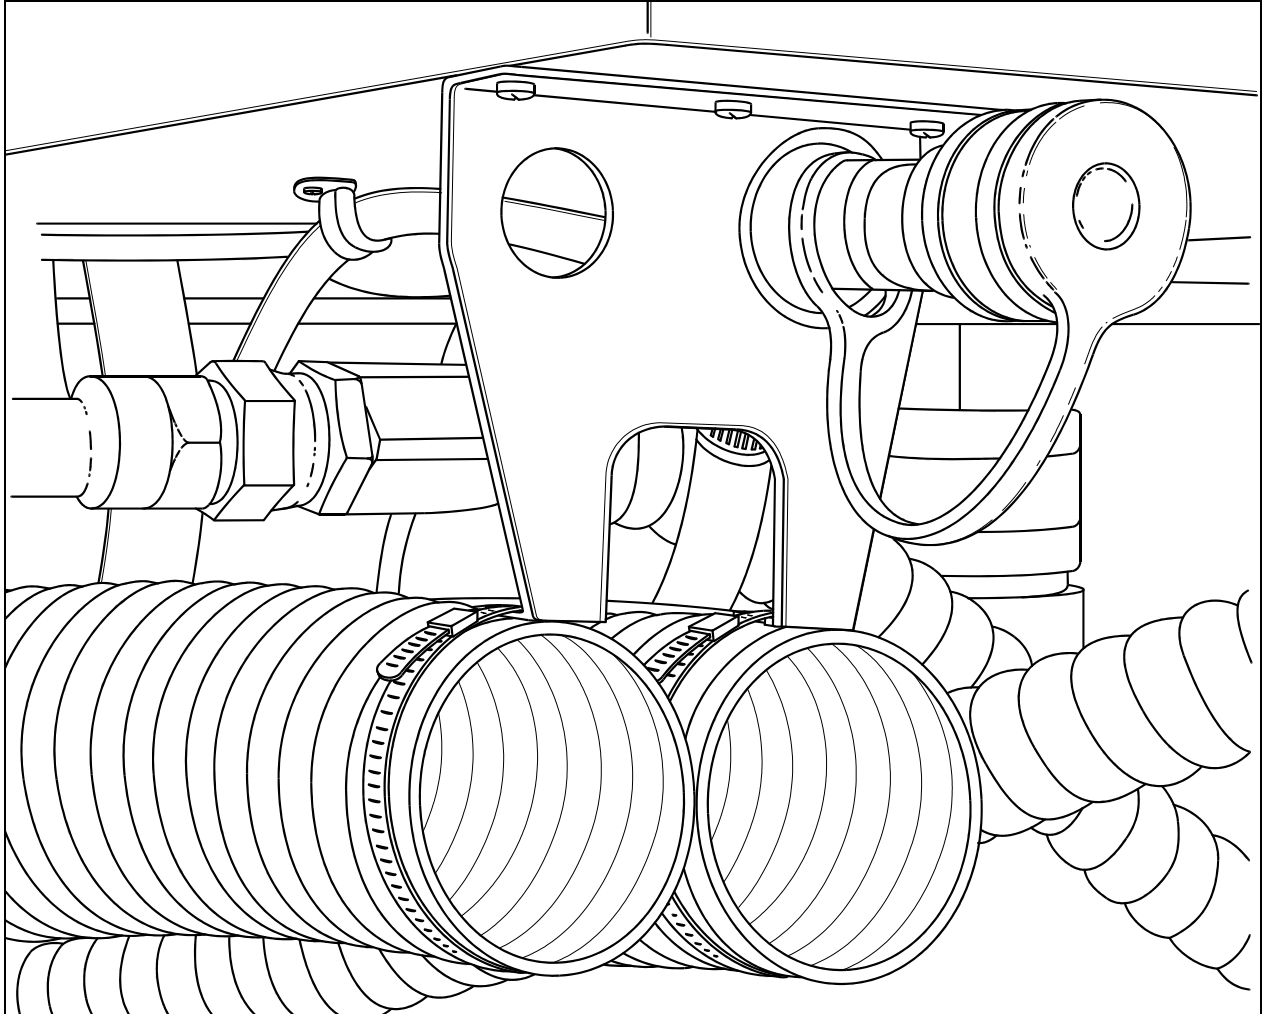

FIGURE 29: HOLDING BRACKET FOR ALTERNATOR AIR HOSES
3. Locate and replace the toilet sump tank and fresh water fill connection bracket (figure 29) with the bracket #065238 included in the kit;